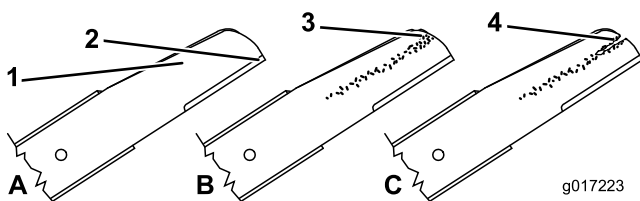

Figure 32
1. Inspect the cutting edges (Figure 32). If the edges are not sharp or have nicks, remove the blades and have them sharpened or replace them.
2. Inspect the blades themselves, especially the curved area (Figure 32). If you notice any damage, wear, or a slot forming in this area, immediately replace it with a new blade.